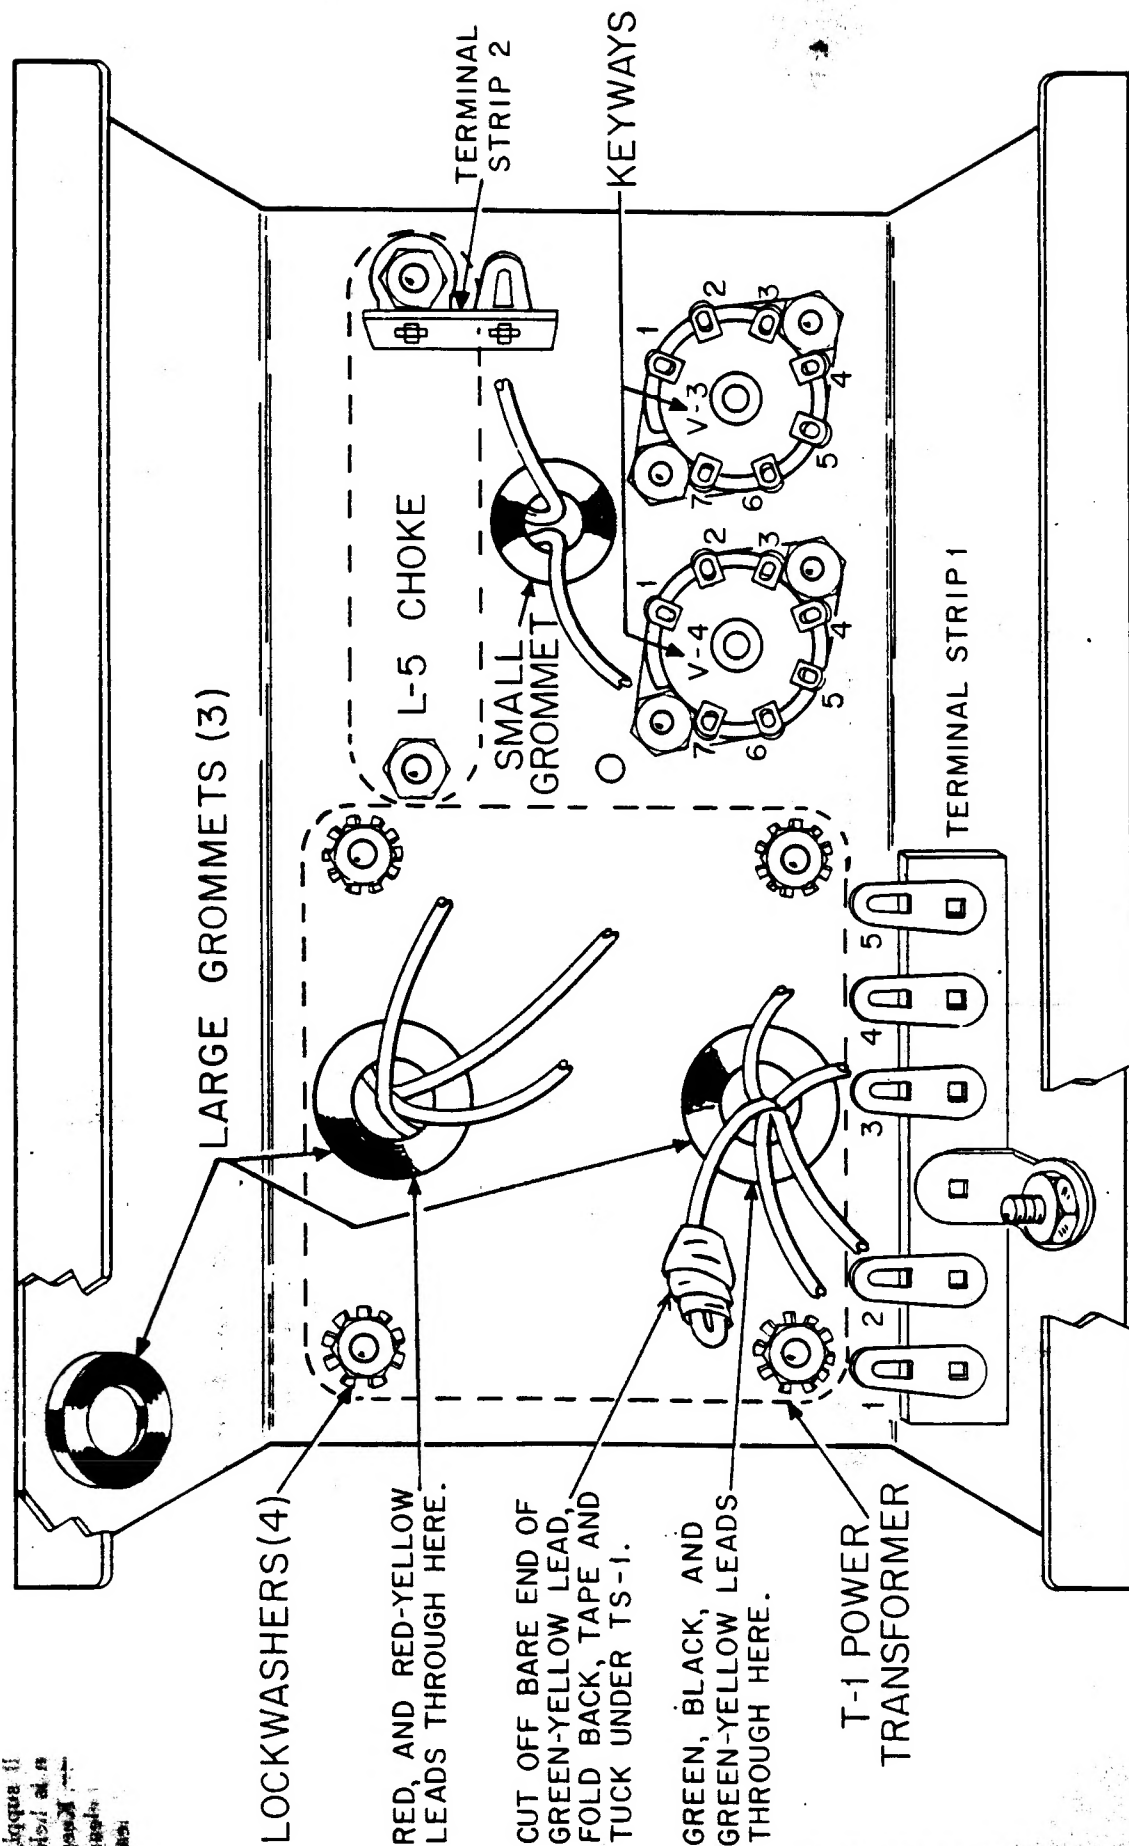

FIGURE 1. HOW TO MOUNT THE PARTS ON THE POWER SUPPLY CHASSIS
SEE FIGURE 1.
- () Mount two of the dark tube sockets inside the chassis. The keyways, the wide space between two of the pins, must be toward the upper left with the chassis positioned as shown in Figure 1. Use two of the small machine screws and nuts, packed with the hardware, to mount each socket.
- () Check all of the work against Figure 1. Be sure the keyways are toward the upper left. It is easier to do some of the wiring before the rest of the parts are mounted.